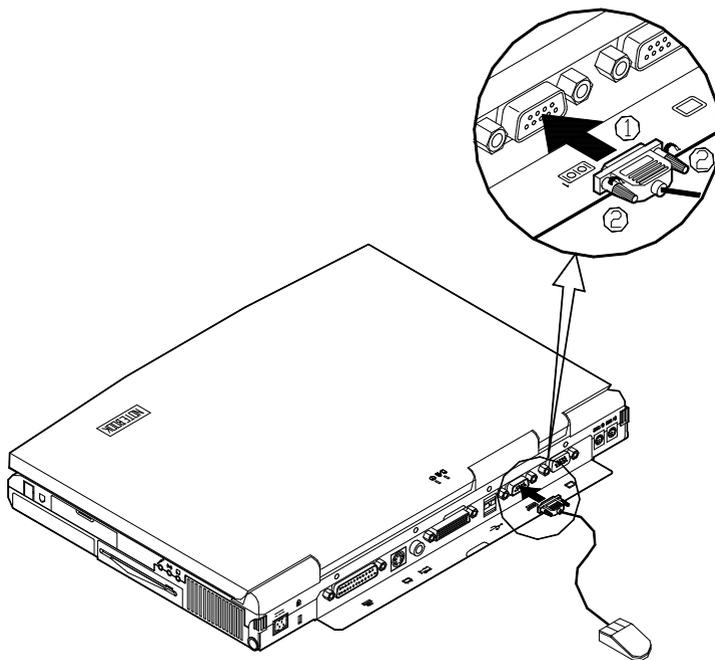

Figure 2-25
3. Tighten the screws that fasten the cable to the serial port (Figure 2-25).